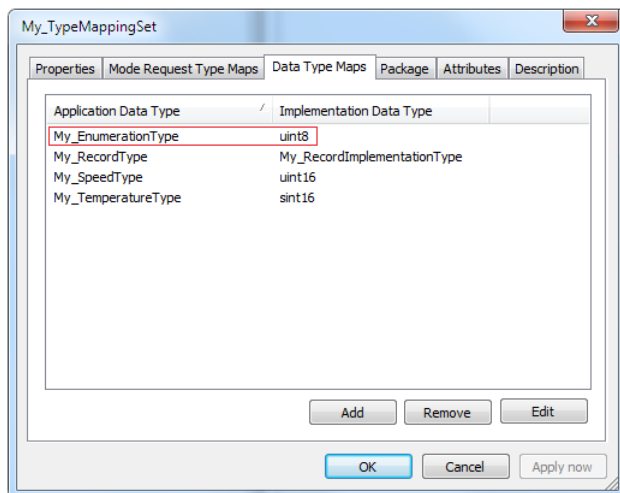

Figure 4-33 My_Enumeration mapping to uint8
- ▶ „My_EnumerationType is then mapped to uint8 in „My_TypeMappingSet” (see Figure 4-33).